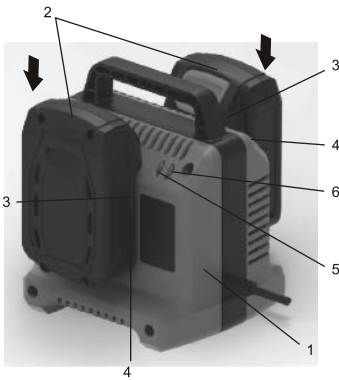

Fig. 2
1. Place the battery charger (1) in a dry location near a 110–120V 60 Hz electrical outlet (Fig. 2).